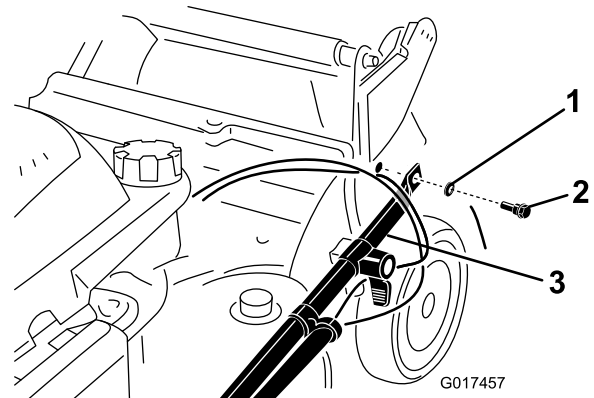

Figure 5
2. Attach the handle ends to the machine housing with 2 washers and 2 handle bolts (Figure 5), but do not tighten the handle bolts.
Important: Route the cables to the *outside* of the handle (Figure 5).